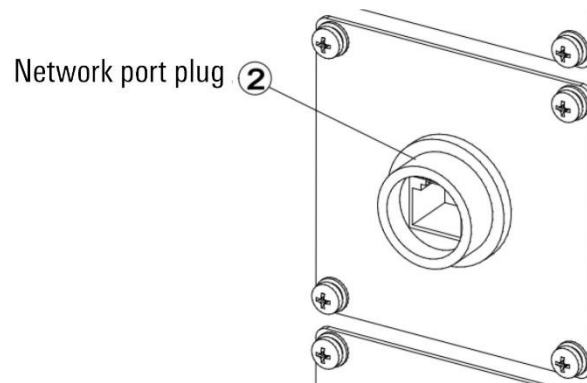

Figure 13-5 Network port plug
Step2. Install the ② network port plug (refer to Figure 13-5) on the network port plug installation plate.